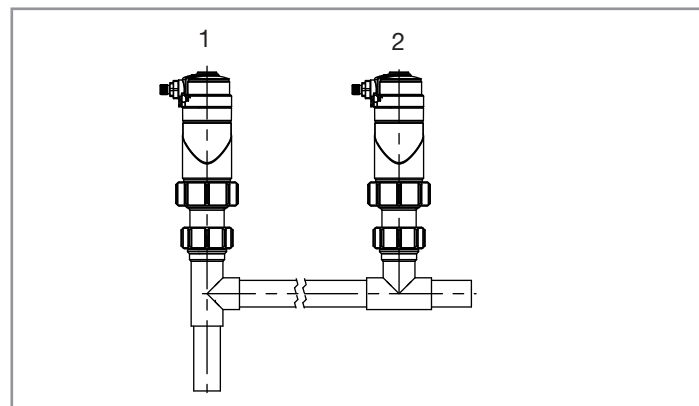

Fig. 10: Mounting positions of the fitting/device unit in the pipe.
If the pH or oxidation reduction potential is measured in liquids containing solids that may leave deposits in the bottom of the pipe, use installation position 1 (see Fig. 10).
- Choose an appropriate position in the pipe to install the fitting (see Fig. 10).